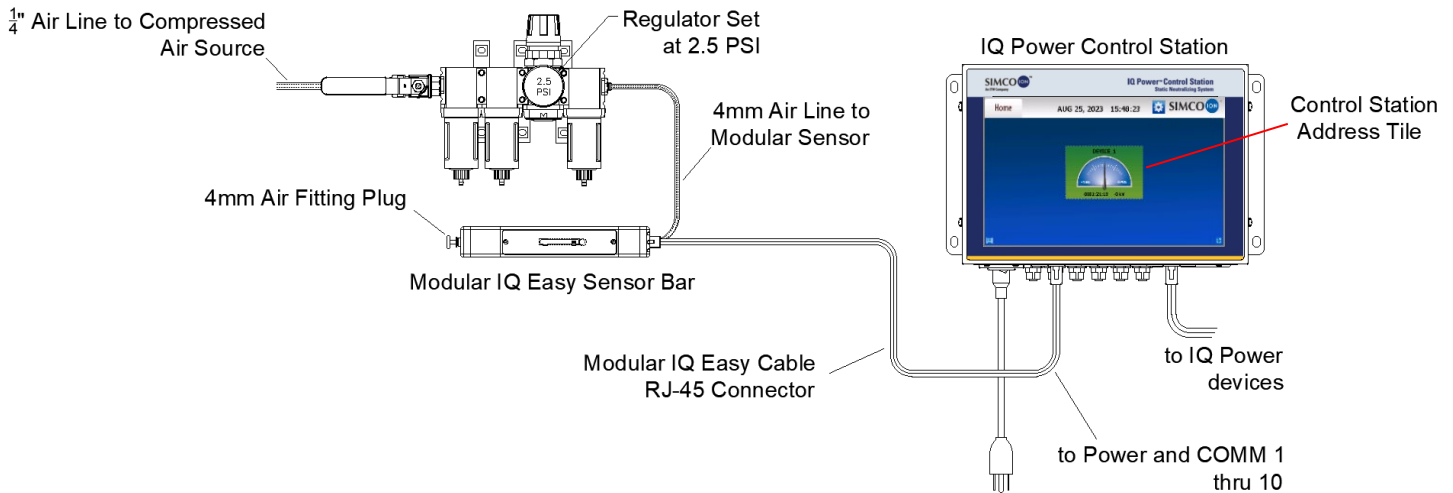

Figure 3. Completed Single Sensor Installation
9. With the air installed, run the cable that will connect the sensor to the Control Station. See Figure 3 for an example of a completed sensor installation with an RJ-45-style sensor.